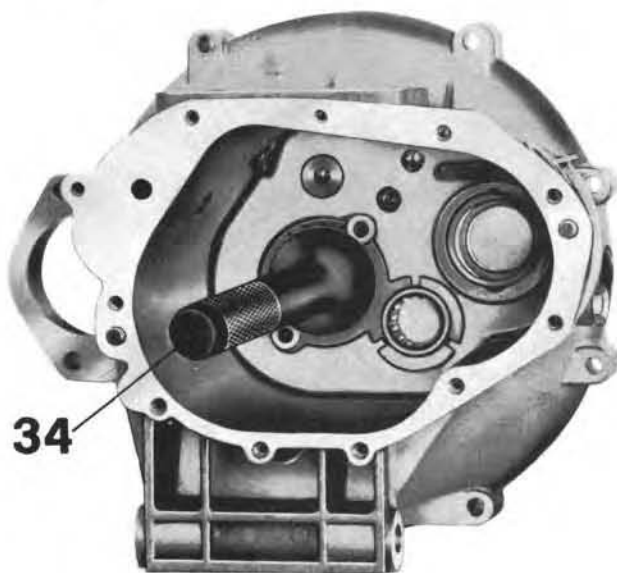

Fig. 86/2
- after smearing it with loctite, press the layshaft bearing in its housing by the aid of punch 14928900 (34 in fig. 86/5);
- The main shaft bearing is pressed in with punch 14929000 (37 in fig. 86/6) after having smeared it with loctite;